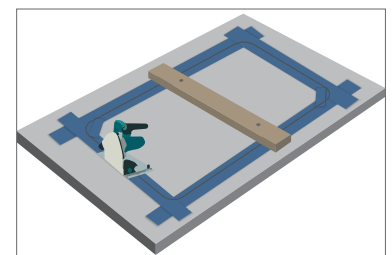

Fig.6
- Using a track saw cut the two long sides. (see Fig. 6)